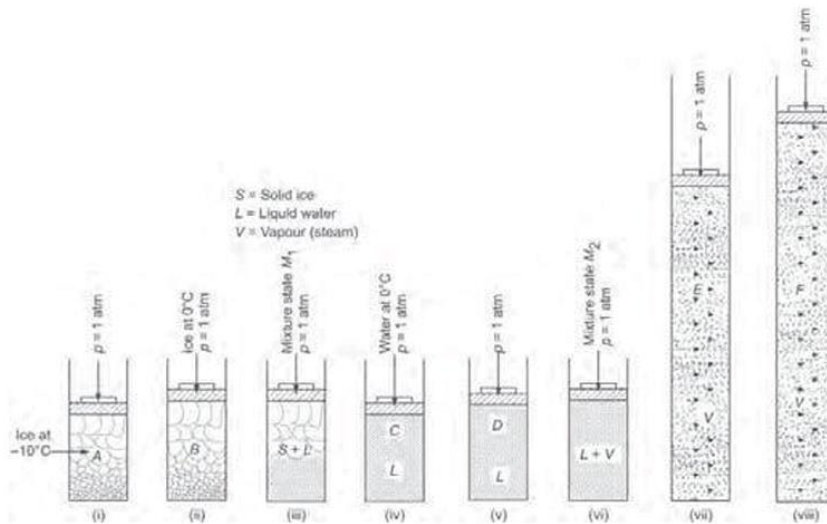

Fig. 3.3 Water in different thermodynamic states
Consider a cylinder fitted with a frictionless piston, which may be loaded to any desired pressure. The cylinder contains 1 kg of ice at  $-10^{\circ}\text{C}$  under 1 atm pressure at the state A as shown in Fig. 3.3. The stages of heat addition are illustrated in Fig. below. Process A B When any amount of heat is added to ice, it gets warmer and its temperature rises till it approaches  $0.01^{\circ}\text{C}$  (generally referred as  $0^{\circ}\text{C}$ ) as shown by the line AB in Fig..
(ii) There is decrease in the specific volume of water, when its temperature rises from 0°C to 4°C and thereafter, the specific volume increases with temperature rise till it reaches the saturation temperature. The piston moves up slightly during this process as shown in Fig. 3.3. (v).
- (iv) The specific volume of vapour is considerable larger than that of saturated water as shown in Fig. 3.3 (vii). At the state E, all the water has been vaporised and this state of steam is called dry and saturated steam. The phase change from liquid to vapour is called vaporisation. Process E F Once the steam becomes dry and saturated, it behaves as an ideal gas and its temperature and volume start increasing with further supply of heat. This steam is called superheated steam.